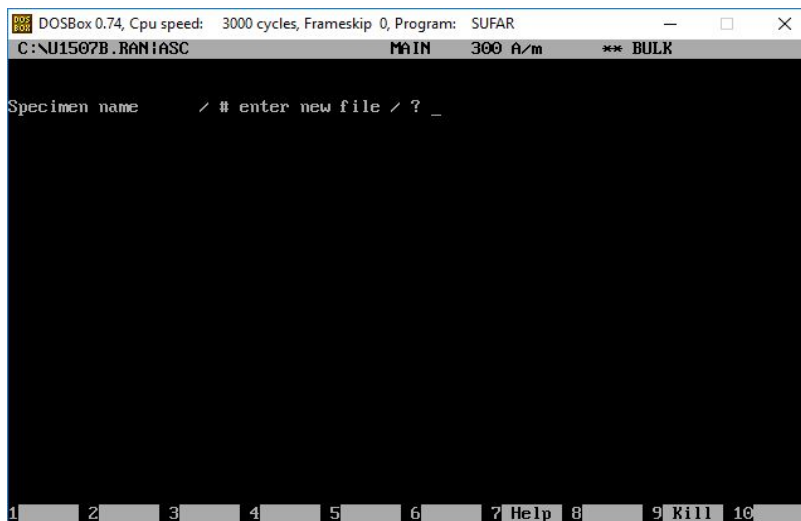

Figure 18 Sufar prompt window after initial file has been set
- a. The saving process will look different after the first measurement is made. The program will only prompt the user for a specimen name (Figure 18).